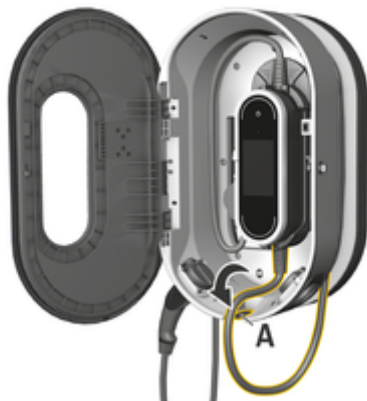

Fig. 19 Inserting control unit
3. Guide the vehicle cable through the opening A (Fig. 19) and wrap any excess cable around the charging dock.